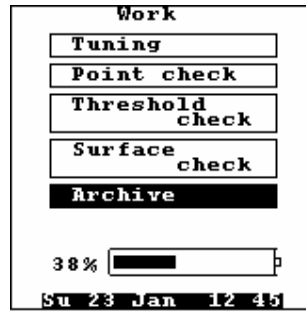

Fig. 10
The WORK mode can be got from the initial splashscreen. To enter WORK mode press and release the ENTER key. WORK menu appears on the Display (Fig. 10).
3. Enter WORK operating mode by pressing ENTER key. WORK mode menu appears on the display (Fig. 10).
3. Enter the WORK operating mode by pressing ENTER key. WORK mode menu appears on the display (Fig. 10).